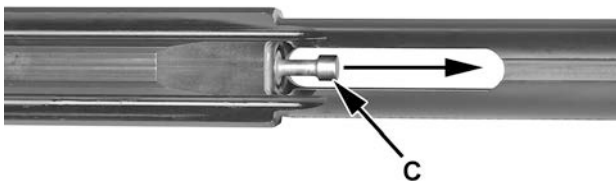

Figure 31
4. Remove the firing pin (C) through the rear of the bolt carrier assembly. See figure 31.